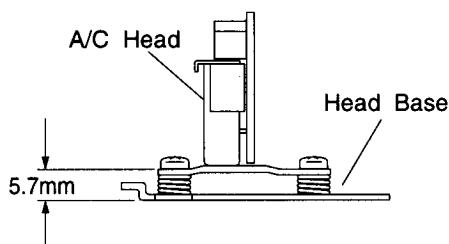

Fig.2-5-4
- (1) Temporarily set A/C head height as indicated in Fig. 2-5-4.
- (2) Clean the A/C head and perform the following adjustment.